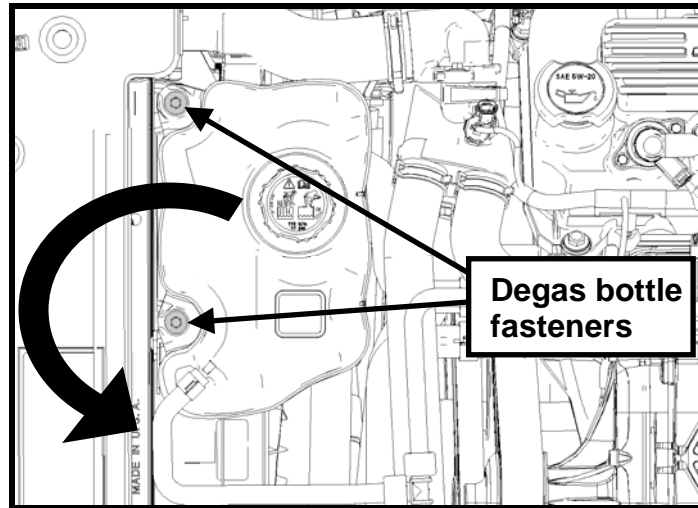

Fig. 12
STEP 12: Remove the two degas bottle fasteners. Make sure the cap is tightly secured. Rotate the degas bottle out of the way to gain additional access to the FEAD belt tensioner (See Fig. 12).